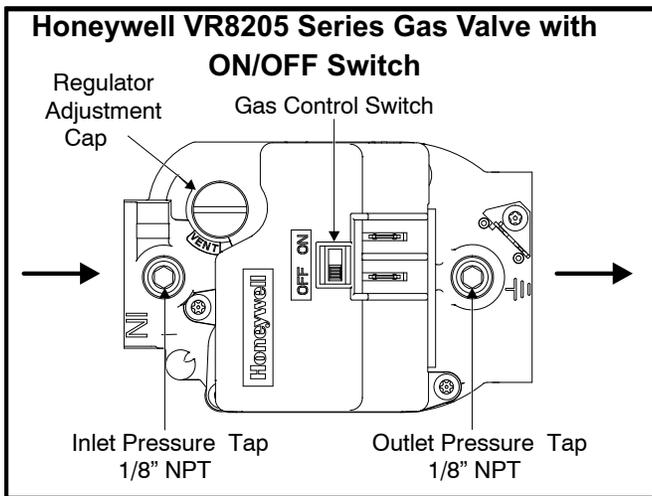
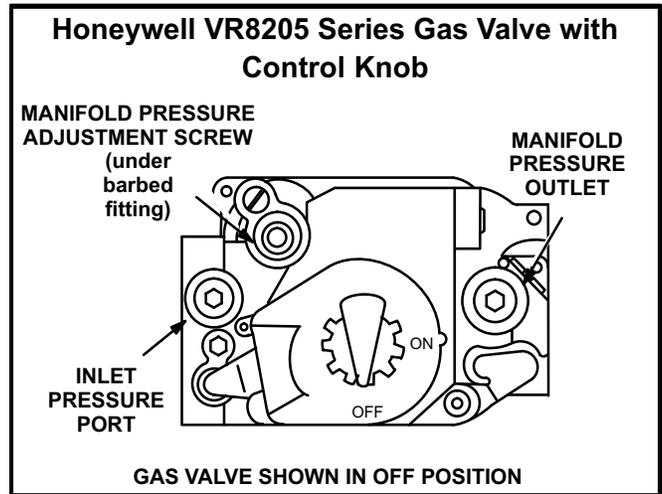

Figure 2
Figure 3
- 4 - Honeywell VR8205 Gas Valve with ON/OFF Switch - Set gas valve switch to **ON**. See figure 2. Honeywell VR8205 Gas Valve with Knob - Turn knob on gas valve counterclockwise  to **ON**. Do not force. See figure 3.